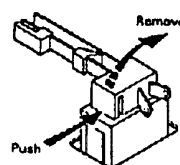

Fig.2 - 23
b.Gear(Below the flywheel)(See Fig. 2 - 24~Fig. 2 - 26)